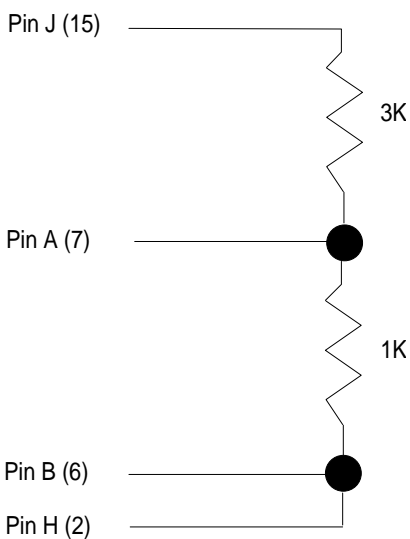

Figure 19: Two Resistors Added to the Transducer Cable
9. Connect two resistors to the transducer cable, as shown in Figure 19.